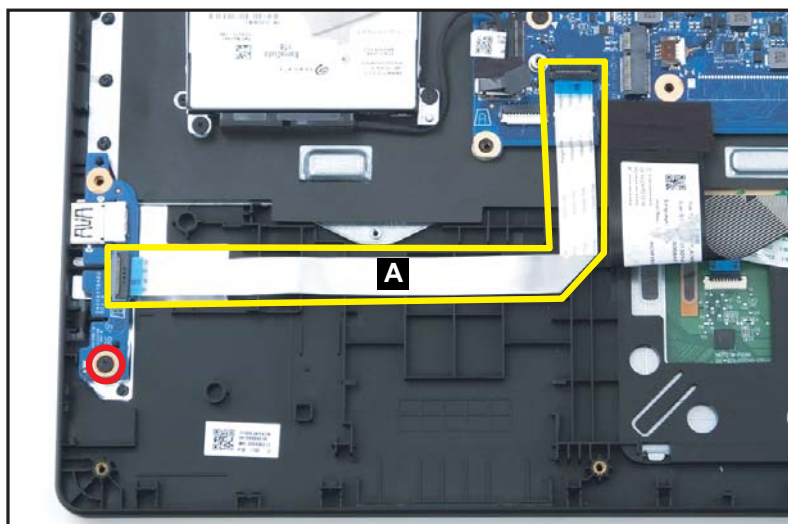

Figure 1-33. USB Board Removal
1. Disconnect the USB board FFC (A) from the mainboard and USB board connectors (Figure 1-33).
2. Remove one (1) screw securing the USB board in place (Figure 1-33).